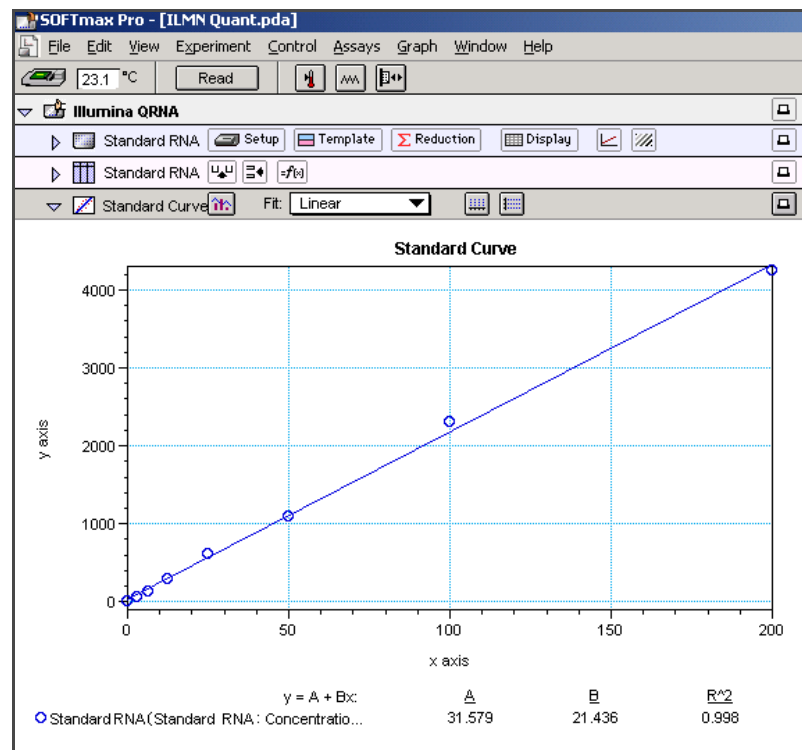

Figure 17 View Standard Curve
- Click the blue arrow next to **Standard Curve** to view the standard curve graph (Figure 17).